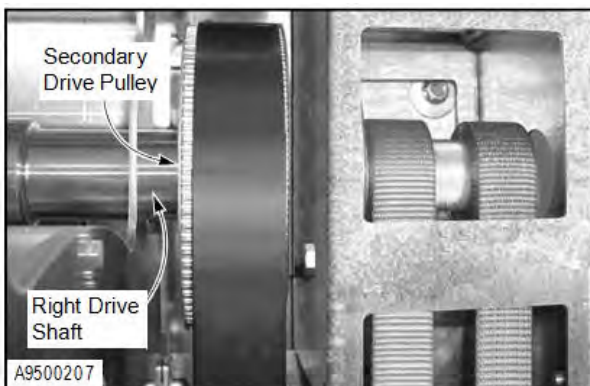

Figure 26
9. Inspect the hardware used to attach the secondary drive pulleys to the left and right drive shafts. Tighten the hardware as required. Replace any missing or damaged hardware. (See Figure 26.)